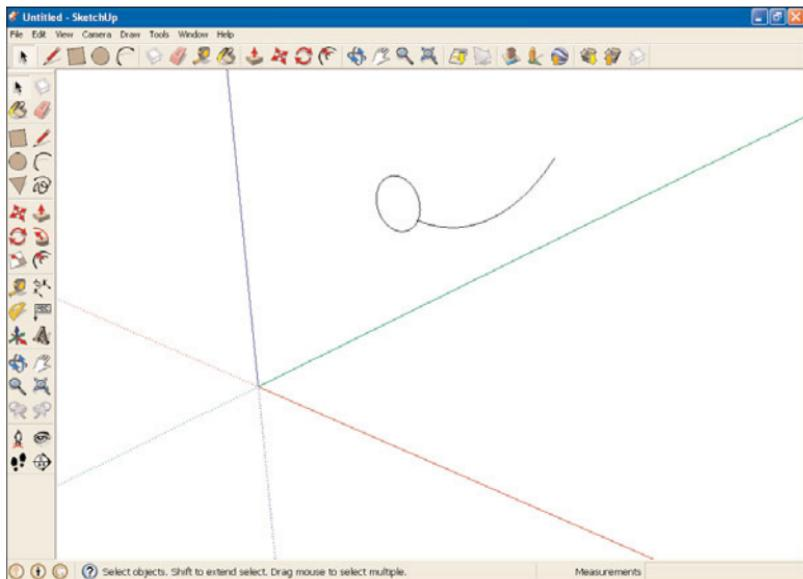

FIGURE 8.19 A circle with an arc.
10. Move the circle to the end of the arc, as shown in Figure 8.19.